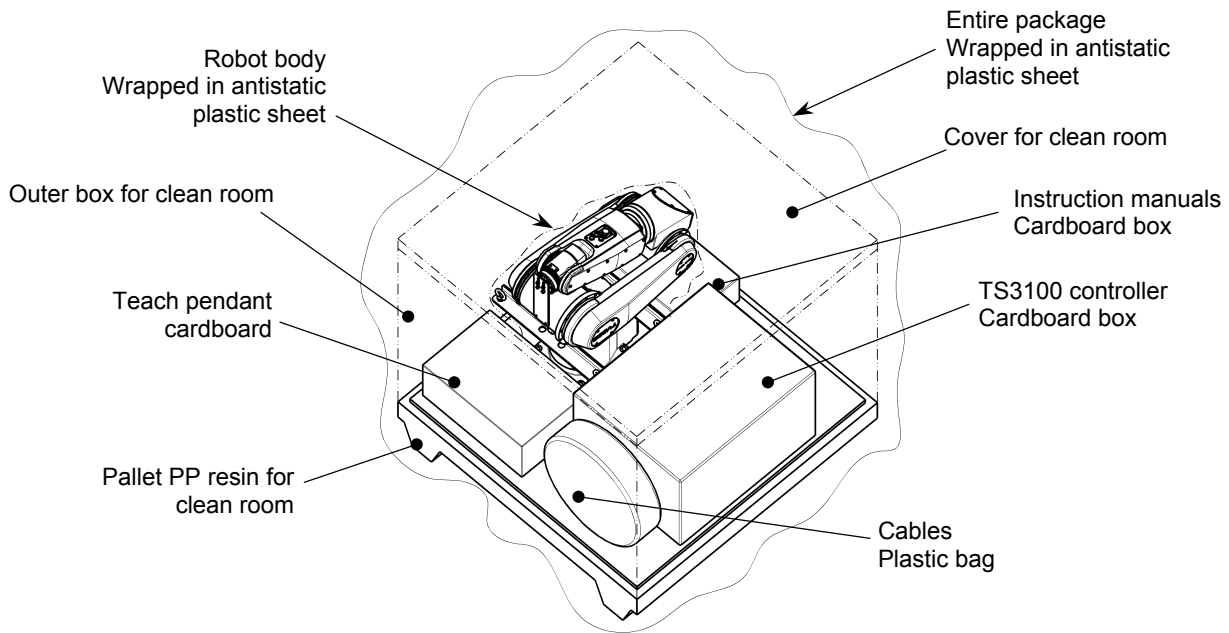

Fig. 2.1 Clean packaging
The clean packaging appears as shown in Fig. 2.1 below.
- Use a lifter or other device to transport the package to the entry room of the clean room in the state shown in Fig. 2.1